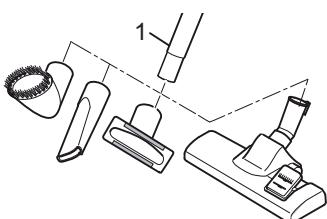
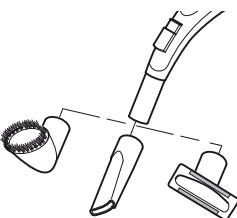

Fig.8
Fig.9
3. Push the desired nozzle on the lower end of the telescopic tube (Fig. 8) or if necessary directly onto the handle (Fig. 9).